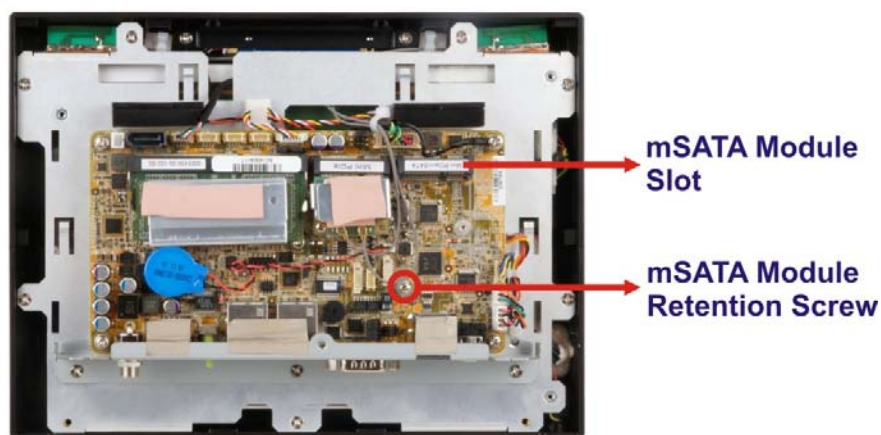

Figure 3-4: mSATA Module Slot Location
- Step 2:** Locate the full-size PCIe Mini card slot. Remove the preinstalled retention screw on the standoff of the PCIe Mini card slot as shown in **Figure 3-4**.